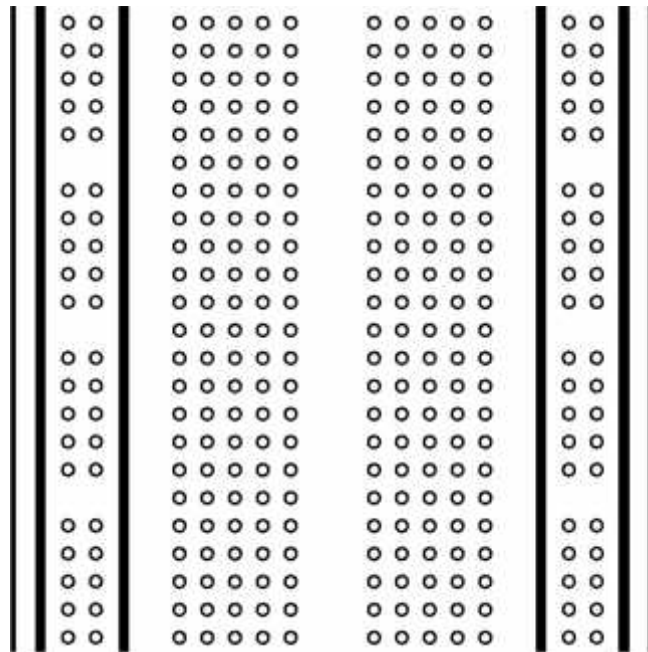
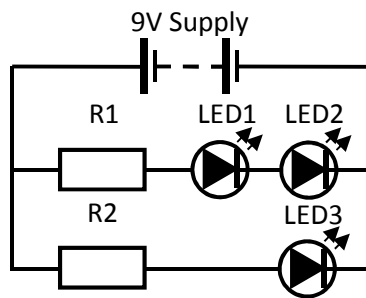

Figure 4
Figure 5
b. Figure 4 shows a piece of equipment.
ii. On Figure 4 construct the circuit given below in Figure 5. Clearly label the supply and components.